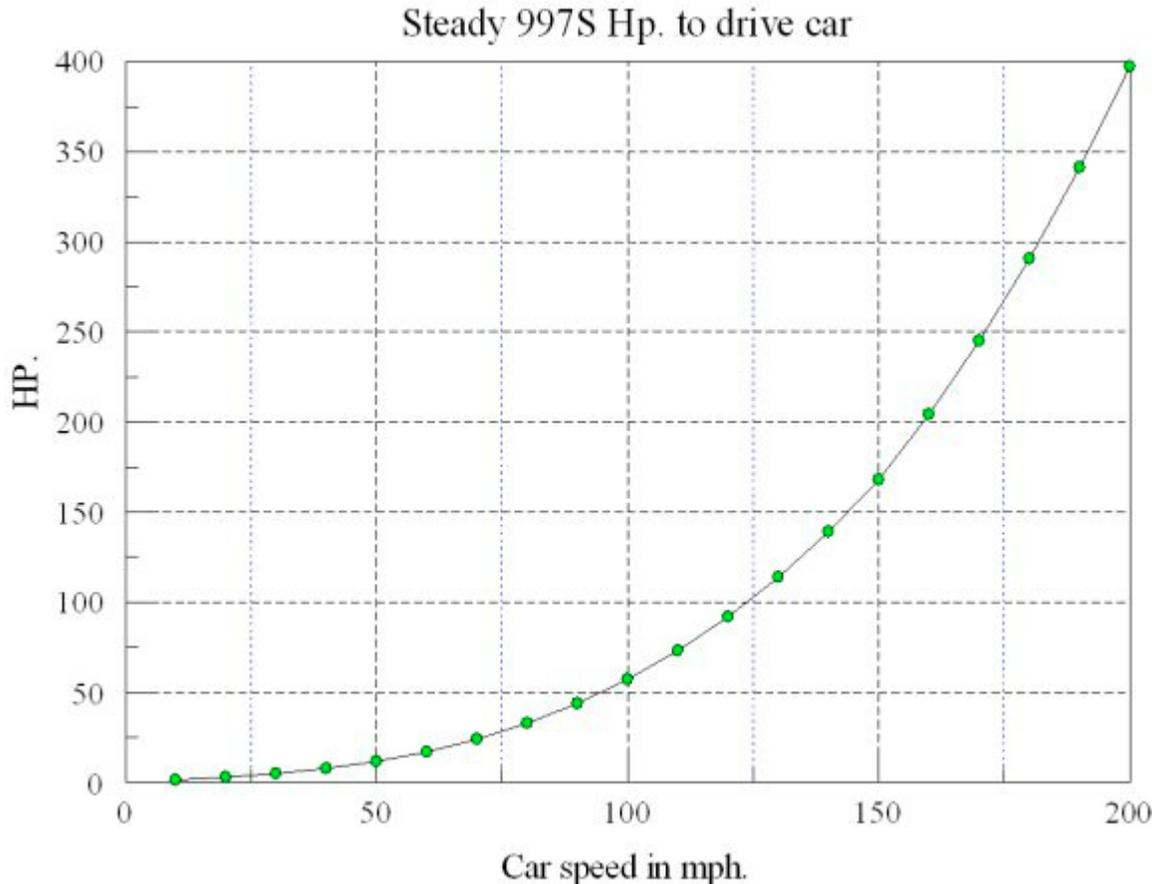

Figure No. 1 Required Hp to drive the car at steady speed
All of the information needed to answer the questions above is included in the figures above. It is only necessary to “pick off” the appropriate values and plot them into the Hp versus car speed plot, Figure No. 1. This is a process that is actually very straightforward so don’t be alarmed. The steps are:
- You now plot these points into Figure no.1, Hp versus car speed.
This results in a new version of Figure No. 1 with the Hp available in each gear compared to that required to drive the car. The next figure shows this modified plot.